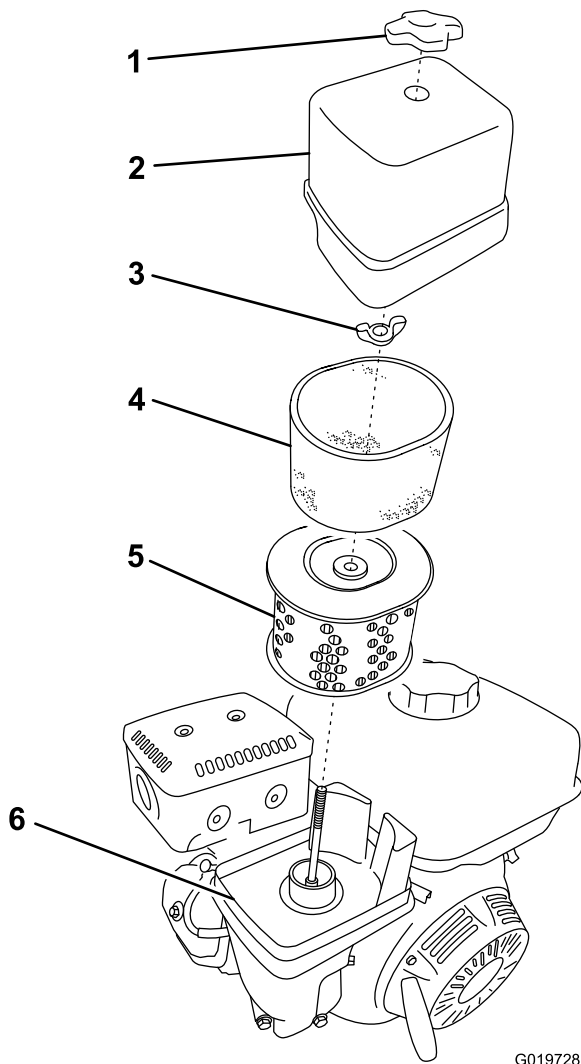

Figure 42
3. Remove the nut that secures the cover (Figure 42).
- Remove the foam and paper elements from the base (Figure 42).
- Remove the foam element from the paper element (Figure 42).